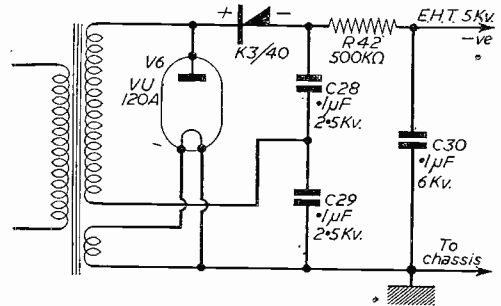

Fig. 6.—The E.H.T. supply.
E.H.T. was obtained from the original E.H.T. transformer in a standard voltage doubler circuit. The circuit is shown in Fig. 6.